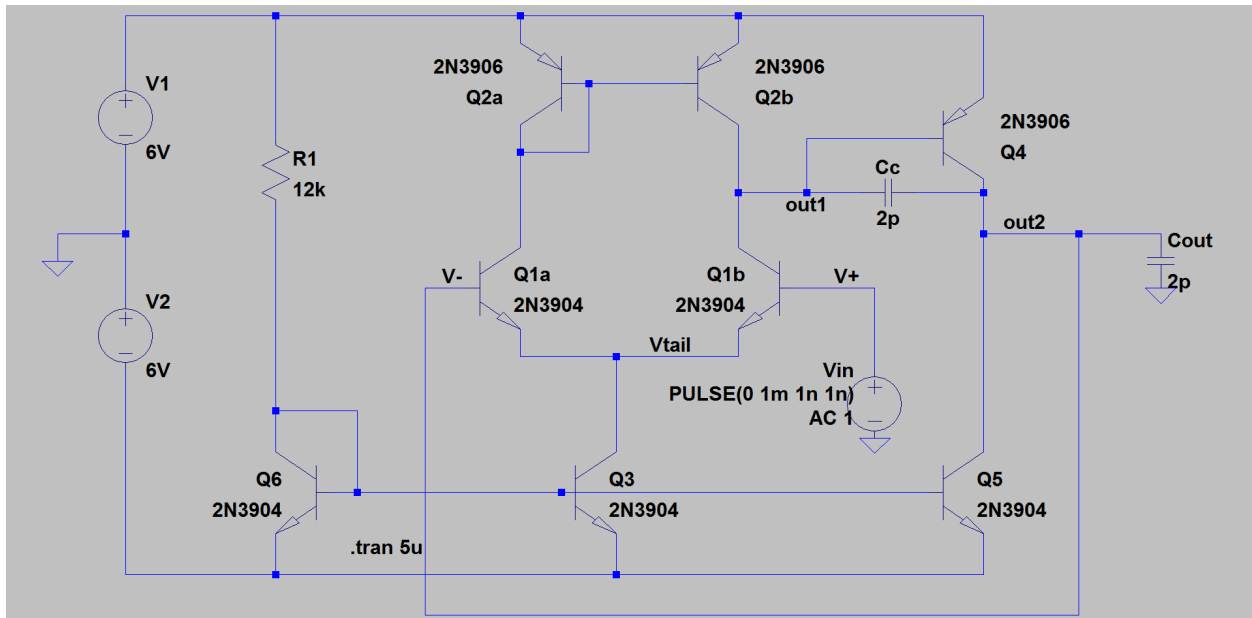

Figure 1 The op-amp in unity gain feedback. Capacitors Cc and Cout represent typical parasitics for a breadboard.
1. Use LTspice on the file BJTopampUnityFB.asc to simulate the amplifier in unity gain feedback, as shown in Figure 1. This amplifier is unstable in unity-gain feedback.